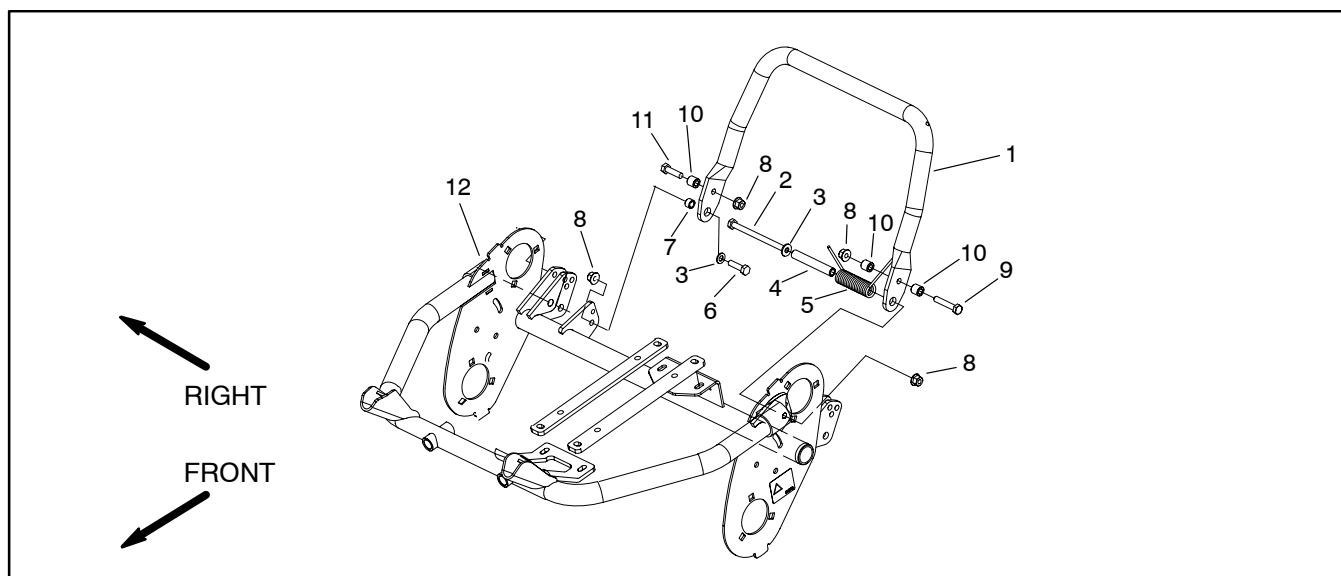

Figure 17
2. Position kickstand inside the mower frame. Insert cap screws through the washers, kickstand, spacers, and frame (Fig. 17).